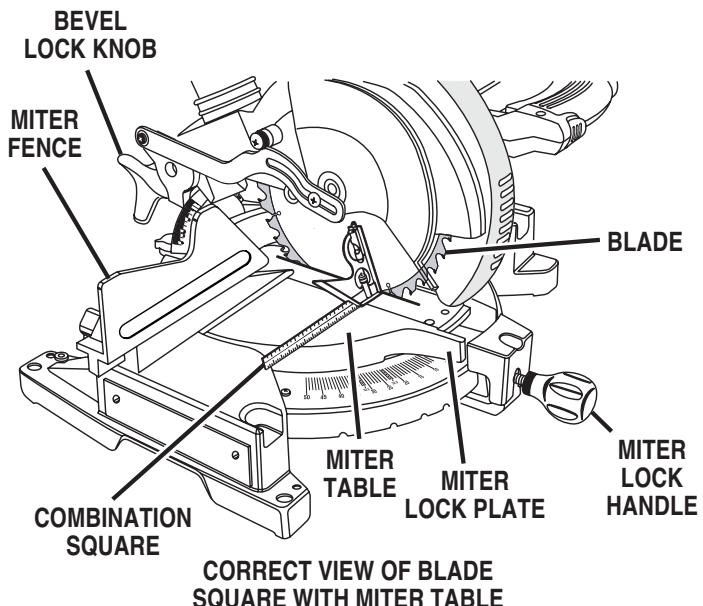

Fig. 18
See Figures 18 - 20.
- The edge of the square and the saw blade should be parallel as shown in figure 18.